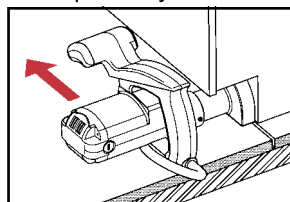

Fig. 9 - Remove underlayment at toe kick with No. 795
1. Remove damaged underlayment at the toe kick area. (See figure 9.)